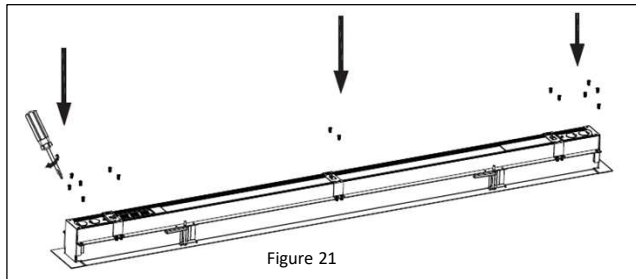

Figure 21
4. Secure the mounting bracket to the fixture using the supplied screws. *See Figure 21.*